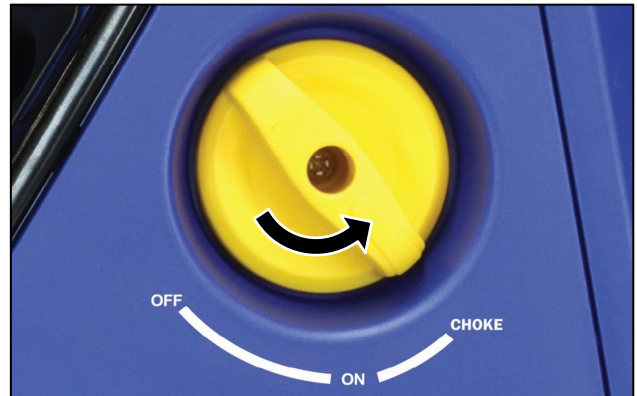

Figure 7 Engine Control Switch in the CHOKE Position
2. Turn the engine control switch anti-clockwise to the CHOKE position if starting a cold engine (see Figure 7). To restart a warm engine, turn the knob to the ON position.